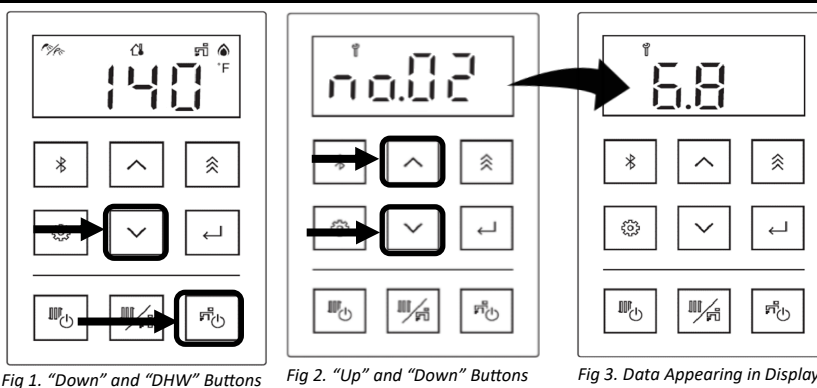

Fig. 1. "Down" and "DHW" Buttons Fig. 2. "Up" and "Down" Buttons Fig. 3. Data Appearing in Display
- Press and hold the **▼** (Down) button for two seconds (Fig. 1).
- While holding the **▼** (Down) button, press and hold the "Domestic Hot Water" (DHW) button (hold both buttons at the same time) (Fig. 1).